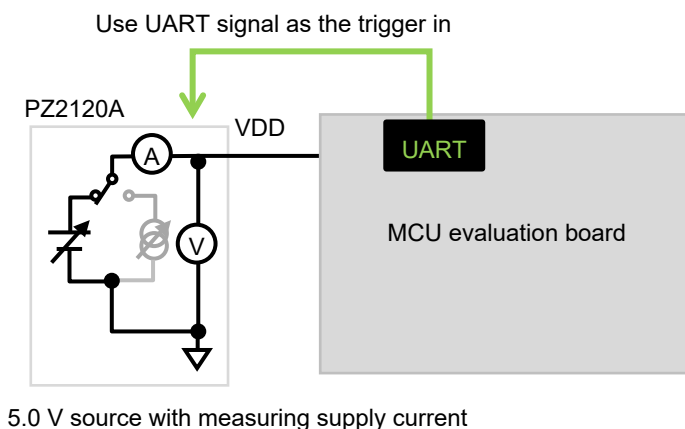

Figure 9. Test setup of a measurement example of low-power ICs
- Figure 9 shows the connection diagram between a PZ2120A and an MCU evaluation board.